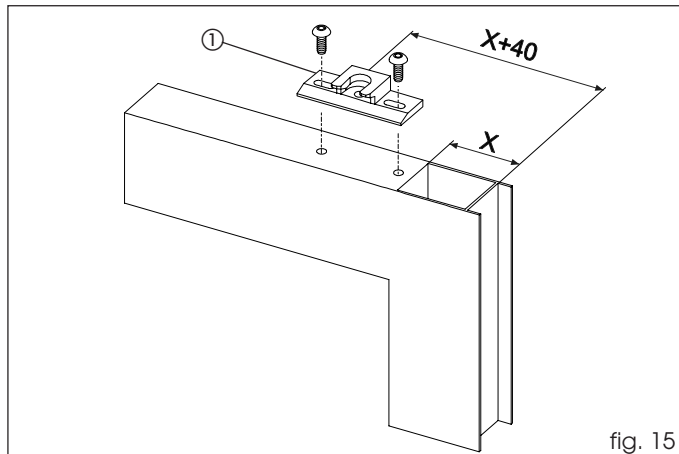

fig. 15
Position the hook-on block for the panic device (fig. 15 ref. ①) on the upper cross-piece of the leaf, respecting the dimensions in fig. 15.